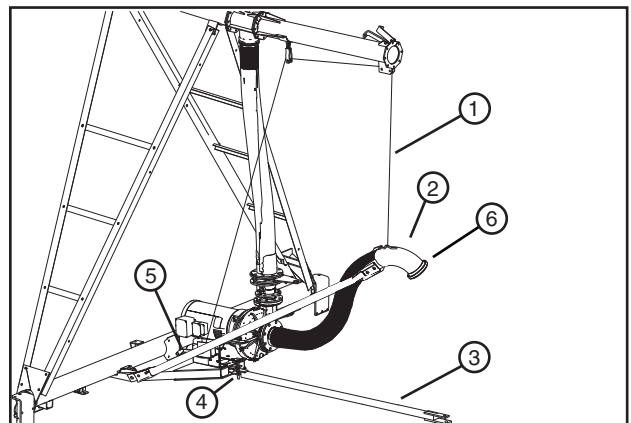

Figure 83-3 1. Lift Cable 2. Elbow Inlet 3. Tongue 4. Torque Pin 5. Cable Lift Handle 6. Disconnect Point
- Attach the tongue to the hose pull frame with torque pin. See figure 83-3.